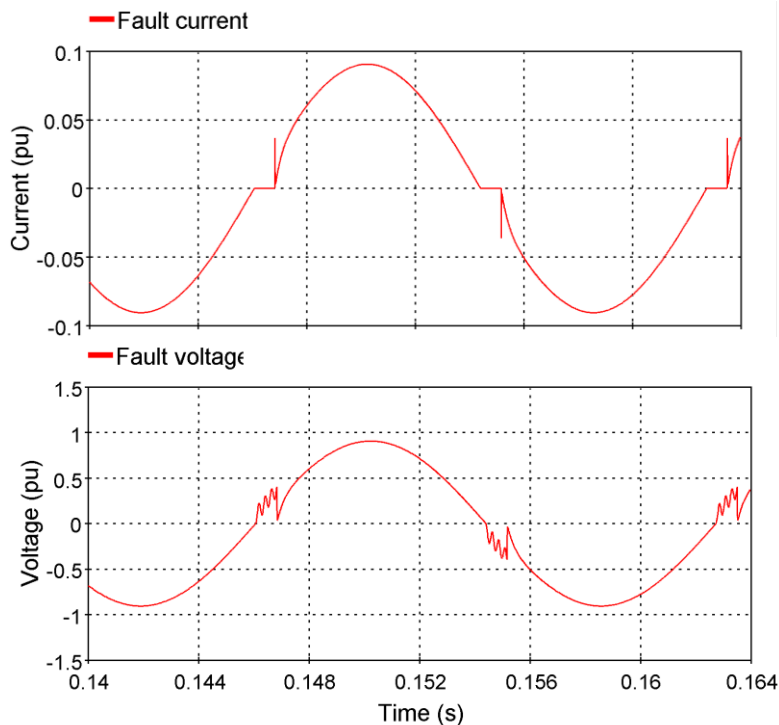

Figure 1: Arc reignition current and voltage. The voltage reignition is 0.4pu.
- This option allows to simulate fault arc current interruption and reignition (see Figure 1). The fault current is interrupted when its absolute magnitude falls below I_{margin} . It is then reignited when the fault instantaneous voltage is larger than the Arc reignition voltage.